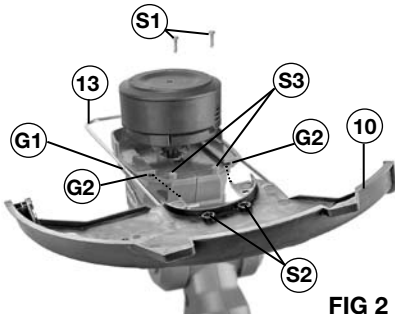

FIG 2
## INSTALLING WIRE GUARD AND SAFETY GUARD (FIG 2)
1. Install the wire guard (13) through the grooves (G1) on both sides of the motor head as shown in FIG 2. Make sure the wire guard snugly fits into grooves.